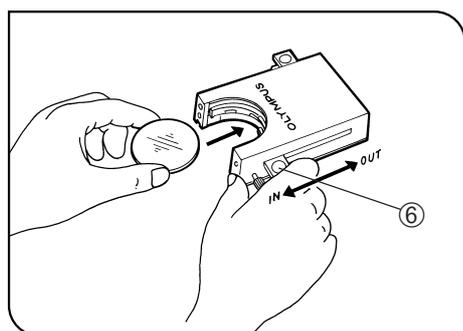

Fig. 7
Using the Filter Cassette (Figs. 7 - 10)
2. Slide the lever ⑥ to the IN position. Make sure that it clicks securely into place. (Fig. 7)
3. Holding the lever in the position shown in Fig. 7, put the filter into the cassette by inserting it in the direction indicated by the arrow.